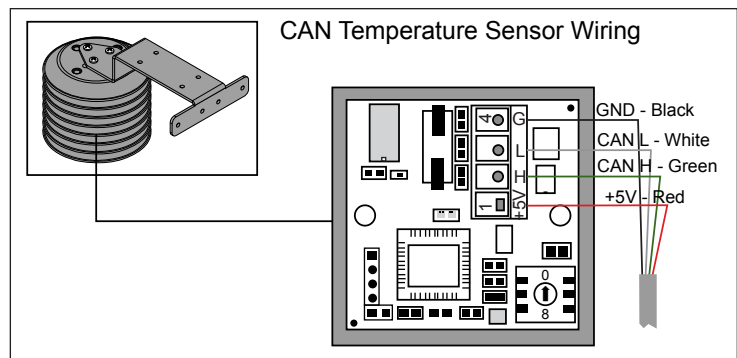

Figure 7: Temperature Sensor Connection
3. Cut the cable to the desired length and reattach to the temperature sensor terminal block in the CAN temperature sensor housing. Refer to the table at right and **Figure 7** for the temperature sensor wiring.